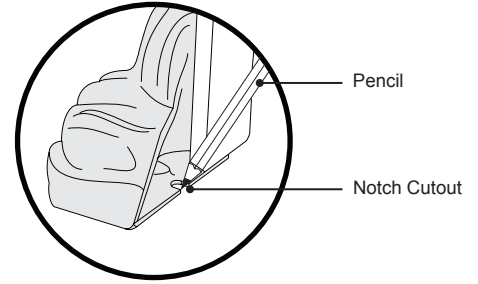

Figure 3. Mounting Hole Mark
- 2 Using a pencil, mark on the ground where the notch cutout is on the inside of each claw foot (Figure 3). This will be where the mounting hole will be drilled in the floor. Repeat this step for the remaining locations.